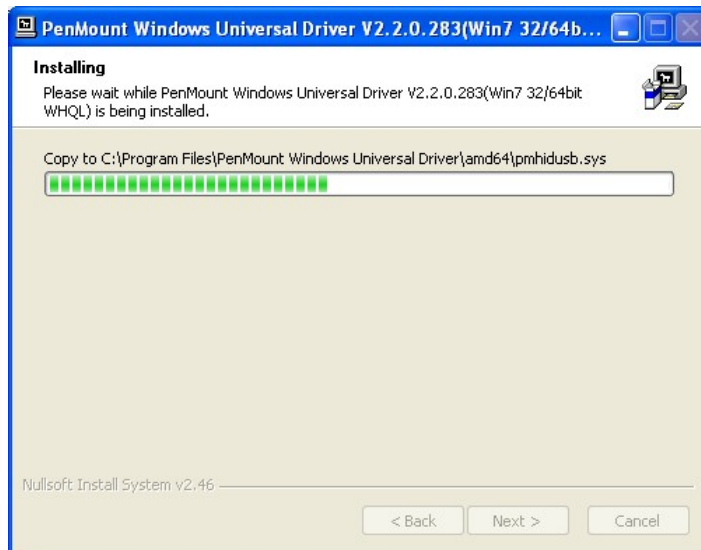

Figure 5-5: Installation Starts
**Step 9:** The installation of the program begins. See **Figure 5-5**.